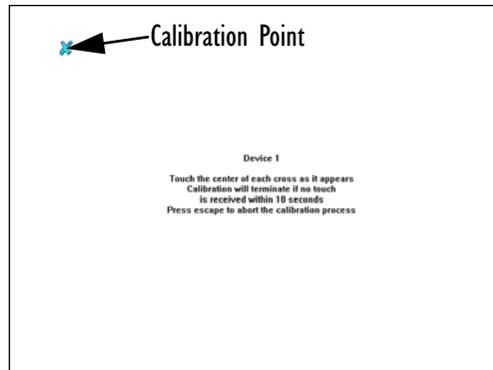

Figure C.4 Calibration Points
7. Use your stylus to touch the centre of each cross (calibration point) as it appears on the screen (Figure C.4).